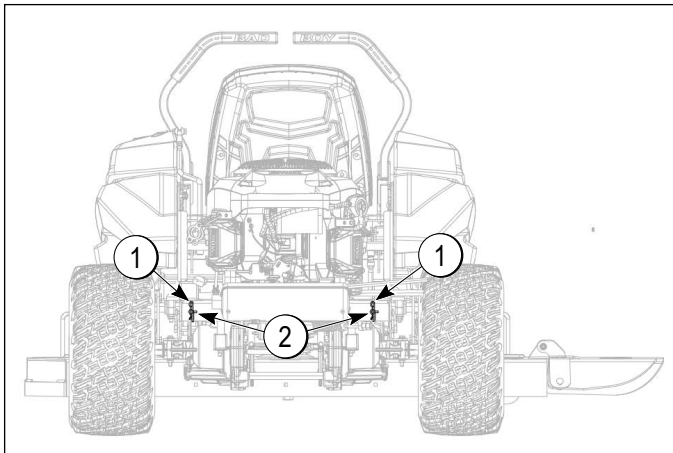

Figure 6-3
The transaxle bypass rods (1) are located at the rear of the machine as shown in Figure 6-3. The transaxle bypass rods serve as a neutral for moving the machine while the engine is not running.
2. Pull the rods out and lock them into place using the cotter pins (2), to activate the bypass.